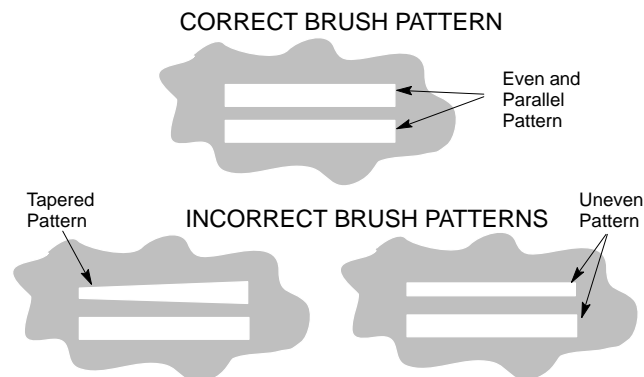

FIG. 21
8. Observe brush pattern on floor. Both brushes should leave an even, parallel pattern (Figure 21).